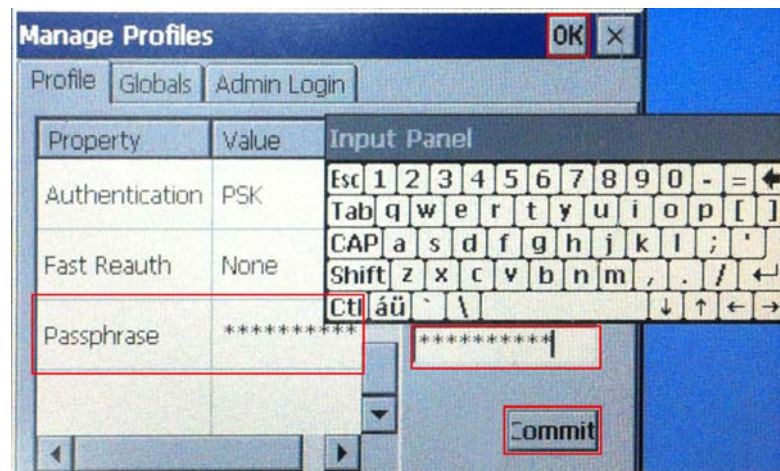

Figure 4-25: Laird Connection Manager – Enter Password
Step 7: Scroll down to the bottom and click **Passphrase**. Enter the password for the network in the Value field. Click the **Commit** button to connect the network. Click **OK** to close the window. See **Figure 4-25**.